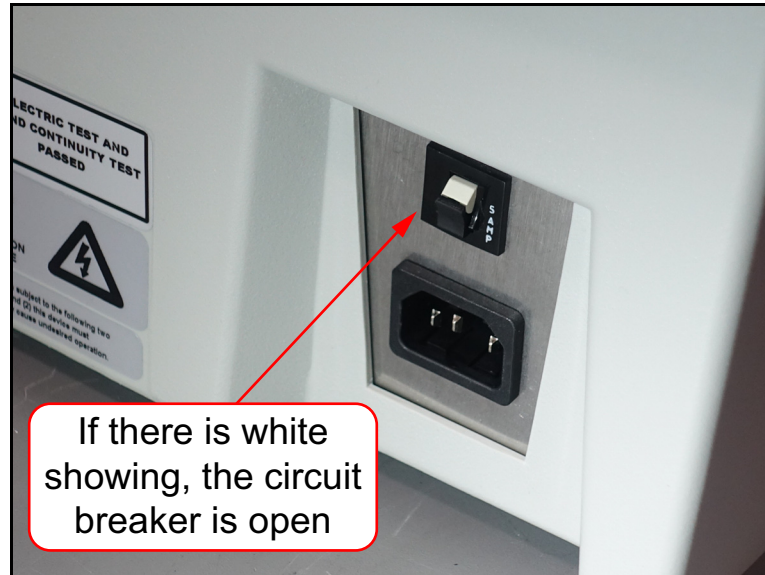

Figure 4-9: Open circuit breaker
1. If the Series 410 has no display and is plugged in and turned on, check the circuit breaker on the back of the Series 410. The breaker shown has been tripped and is open (Figure 4-9).